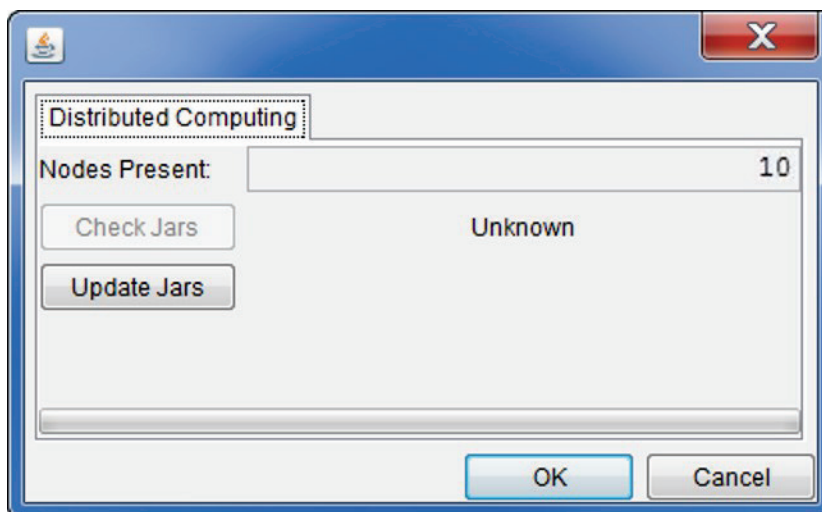

**Figure B.31** Model Alternative Usage Dialog Box – Model Alternative List
- From the **Plugin** list (Figure B.31) select the associated software application with a model alternative (i.e., *RAS*). From the **Model Alternative** list (Figure B.30), select a model alternative (i.e., *Base for Real Time forecasting*). The table will display a list of all the simulations in an HEC-WAT study that contain the selected model alternative.